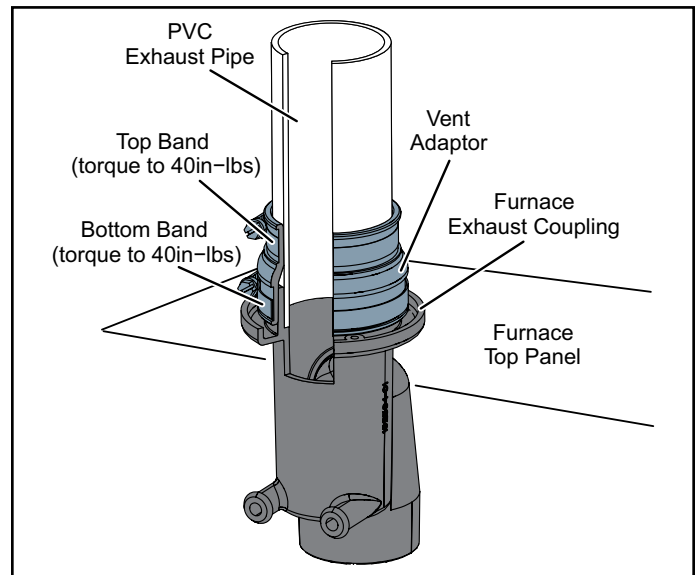

Figure 19. Vent Adaptor to Exhaust Coupling
NOTE: Exhaust coupling must be installed with provided appliance adapter. See Figure 19.
4. Tighten both top and bottom bands to 40 in lbs. See Figure 19.